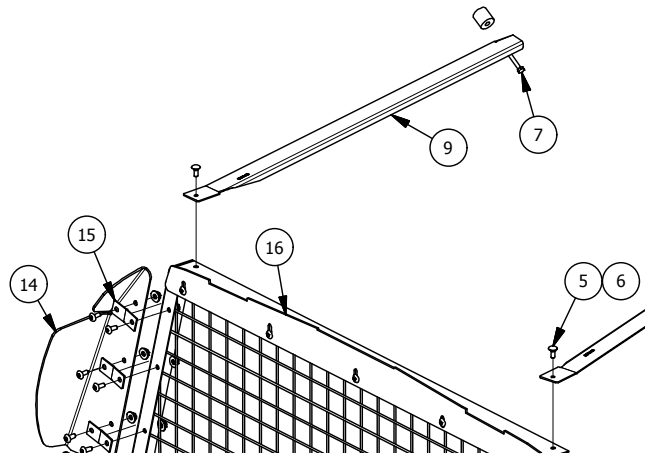

Figure: 1
D. Align bracket 3B5715-03S with the coat hook mounting hole on the passenger side of the vehicle and secure using the provided 3X97 bolt and spacer. Repeat process for the drivers side, with bracket 3B5715-02S. (See Figure: 1 below) Refer to the last page for part description.